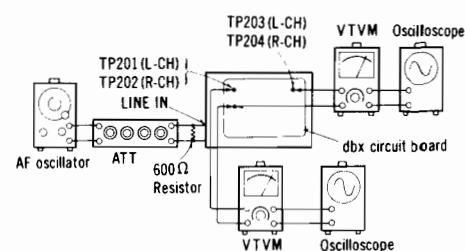

Fig. 15
<p>G Overall gain</p> <p>Condition:</p> <ul style="list-style-type: none"> * Record/playback mode * Normal tape mode * Input level controls ... MAX * Output level control ... MAX * Standard input level; <ul style="list-style-type: none"> MIC -72 ± 3dB LINE IN ... -24 ± 3dB <p>Equipment:</p> <ul style="list-style-type: none"> * VTVM * AF oscillator * ATT * Oscilloscope * Resistor (600Ω) * Test tape (reference blank tape) ... QZZCRA for Normal 	<p>1. Test equipment connection is shown in fig. 15.</p> <p>2. Place UNIT into normal tape mode, and load the test tape (QZZCRA).</p> <p>3. Place UNIT into record mode.</p> <p>4. Supply 1kHz signal (-24 dB) from AF oscillator, through ATT to LINE IN.</p> <p>5. Adjust ATT until monitor level at LINE OUT becomes 0.7V.</p> <p>6. Playback recorded tape, and make sure the value at LINE OUT on VTVM becomes 0.7V.</p> <p>7. If measured value is not 0.7V, adjust VR7 (L-CH), VR8 (R-CH).</p> <p>8. Repeat from step (2).</p>
<p>H Fluorescent meter</p> <p>Condition:</p> <ul style="list-style-type: none"> * Record mode * Input level controls ... MAX * Output level control ... MAX <p>Equipment:</p> <ul style="list-style-type: none"> * VTVM * AF oscillator * ATT 	<p>1. Make connections as shown (See fig. 15).</p> <p>2. Connect a wire between TP301 and ground terminal (See fig. 16).</p> <p>3. In the recording pause mode, apply 1 kHz (-24 dB) to LINE IN.</p> <p>4. Adjust ATT so that output level at LINE OUT is 0.7V.</p> <p>-40dB adjustment</p> <p>5. Adjust ATT so that the level adjusted at step 4 is reduced by 40 dB.</p> <p>6. At this time, check that -40 dB indicator is lighted halfway (intermediate brightness between full brightness and light-out: See fig. 17).</p> <p>7. If the indicator is not lighted halfway as described in step 6, adjust VR302.</p> <p>0dB adjustment</p> <p>8. Restore the condition of step 4 (set LINE OUT output level to 0.7V).</p> <p>9. At this time, check that 0dB indicator is lighted halfway (intermediate brightness between full brightness and light-out: See fig. 18).</p> <p>10. If improper, adjust VR301.</p> <p>11. Repeat adjustments and checks at steps 4, 5, 6, 7, 8, 9 and 10 two or three times.</p> <p>12. Disconnect the wire between TP301 and ground terminal, which had been connected at step 2.</p>
<p>4-1 Operation check of VCA circuit and Pre-emphasis circuit</p> <p>1. Make the connections as shown in fig. 15, and apply 100Hz — 27dB signal from LINE IN. 2. Short pin ③ of IC201 (L-CH) and IC202 (R-CH) to TP207 (ground) as shown in fig. 16. 3. Set the unit to record mode, and set the noise reduction selector to dbx tape position. 4. Adjust ATT so that the signal level at TP201 (L-CH) and TP202 (R-CH) is 300mV. 5. Make sure that the output signals at TP203 (L-CH) and TP204 (R-CH) are sinusoidal. (The operation of VCA can then be checked.) 6. Shift the frequency of input signal to 5kHz, and make sure that the output signal levels at TP203 (L-CH) and TP204 (R-CH) are increased by about 12dB. (The operation of the Pre-emphasis circuit can then be checked.)</p>